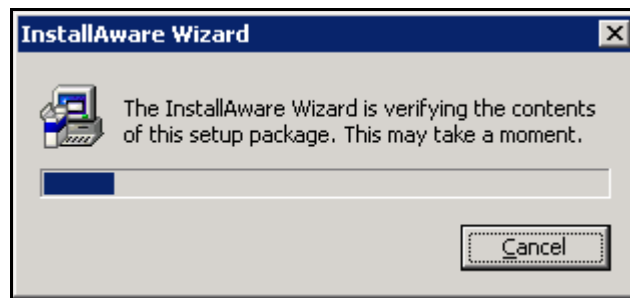

Figure 1 – InstallAware Wizard
The *User's Manual* has been designed in such a way that the user can click on references in the document to jump to that referenced point without having to scroll through several pages (in some cases). For example, if the user requires to see the sentence "Refer to Figure 1 for more information", press the **CTRL** key and click the mouse on the text "Figure 1" which will automatically take the user to the location of Figure 1 within the document.
2. Double-click the *Matrikon OPCODBCClient.EXE* file, if the Matrikon OPC InstallAware screen does not automatically appear. The **InstallAware Wizard** (Figure 1) verifies its contents.